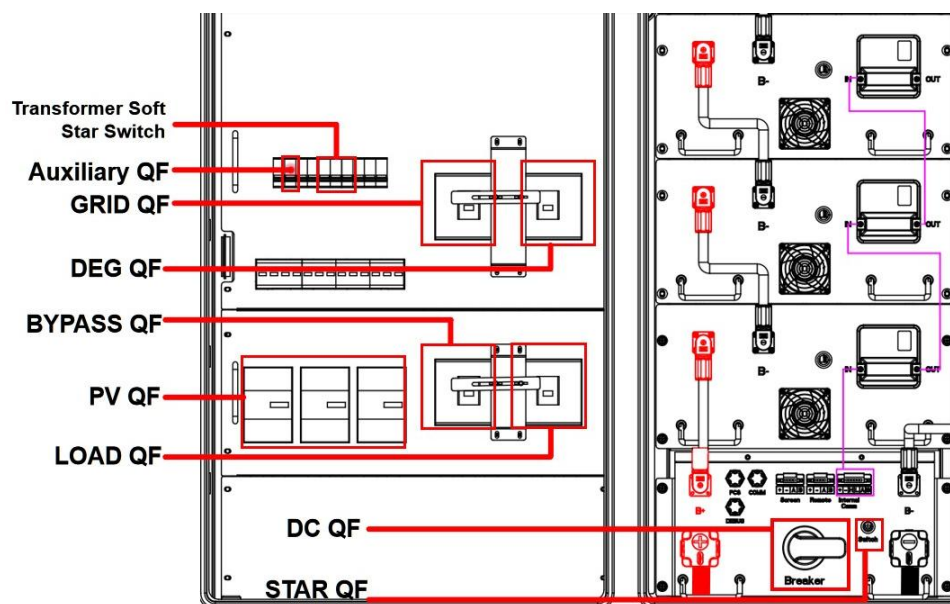

Figure 5.3
2. Referring to Figure 5.3, place the transformer soft-start switch, the air conditioning switch, and the auxiliary power switch to the ON position. Then, place the mains power supply switch to the ON position to complete the transformer soft-start process.
- Step 3:** Refer to Figure 5.3 and disconnect the engine switch, mains power switch, bypass switch, load switch, and photovoltaic switch.